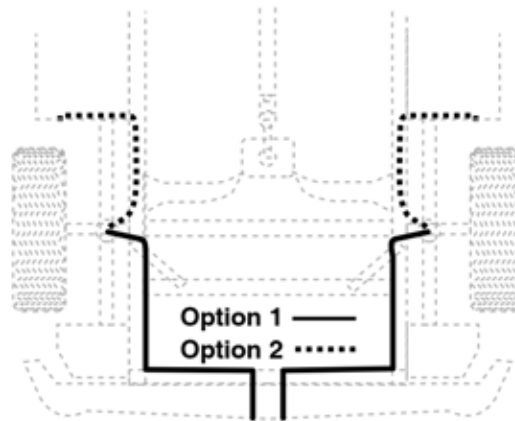

fig. 5
- A. Select a location for the inflation valves in the rear bumper area or rocker panel flange insuring that each valve will be protected and accessible with an air hose (Figure 5).
so that it will be protected from the direct heat from the muffler or tailpipe and kept away from sharp edges. The air line should not be bent or curved sharply. (Figure 5). Attach air line to chassis with the provided plastic straps.